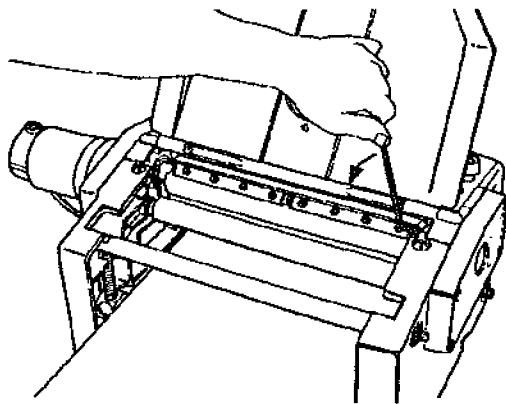

Fig. 66
3. Pop the wedge loose- Using the 5/32" Allen wrench again, turn the right knife leveling screw counter-clockwise 1/4 turn, as seen in Fig. 66. This usually requires a strong twist if the wedges are properly seated. Move to the middle screw and turn it 1/4 turn, then the left screw.